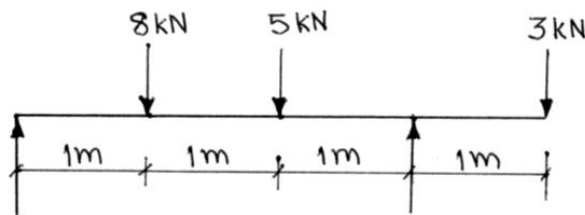

FIG. 3 Q.3(a) OR
- Q.3** (a) Draw shear force and bending moment diagram for the beam shown in Fig.3 Also locate point of contra flexure, if any. **07**